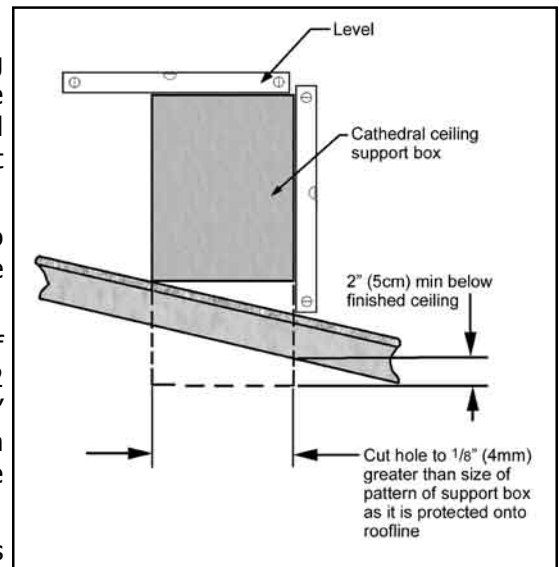

Figure 19: Cathedral Ceiling Support Box Leveling.
- STEP 4.** Lower the "Support Box" through the hole in the roof until the bottom of the "Support Box" protrudes at least 2 inches (5 cm) below the ceiling. Align the "Support Box" both vertically and horizontally with a level as shown in Figure 19. Temporarily tack the "Support Box" in the place through the inside walls and into the roof sheathing.